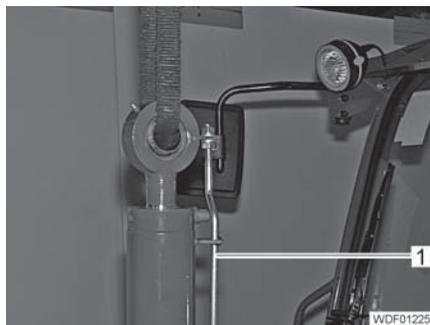

Fig. 198 Raising the tipping cylinder
- ▷ Do not bend or damage the tilting indicator (Fig. 198,1).
- Raise the tipping cylinder at the rod end as far as possible using suitable lifting gear (e.g. a crane) (Fig. 198).